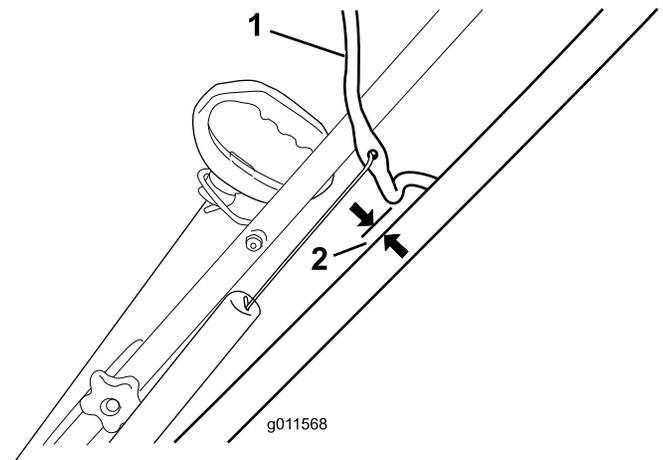

Figure 9
Move the control bar back toward the handle to remove the slack in the control cable (Figure 9).
**Note:** Ensure that a gap of 1/16 to 1/8 inch (2 to 3 mm) exists between the control bar and the handle (Figure 9).